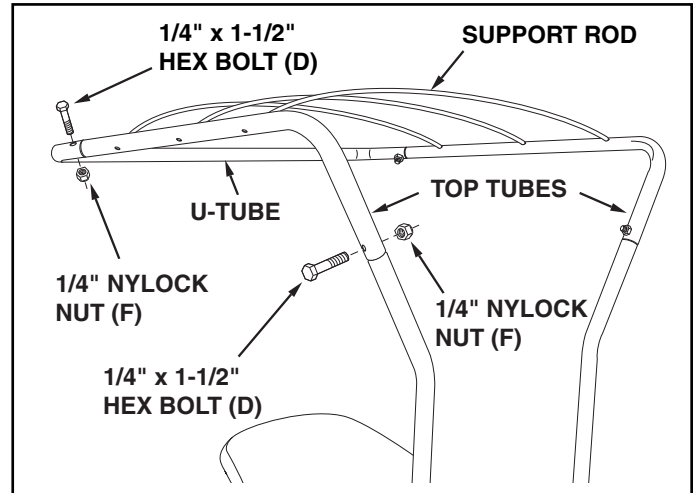

FIGURE 11
STEP 10: (SEE FIGURE 11)
- Assemble the top tubes to the upright tubes using two 1/4" x 1-1/2" hex bolts (D) (outside) and two 1/4" nylock nuts (F) (inside). **Do not tighten yet.**
- Fit the front U-tube onto the top tubes. Fasten the tubes together using two 1/4" x 1-1/2" hex bolts (D) (outside) and two 1/4" nylock nuts (F) (inside). **Tighten all** loose bolts and nuts.